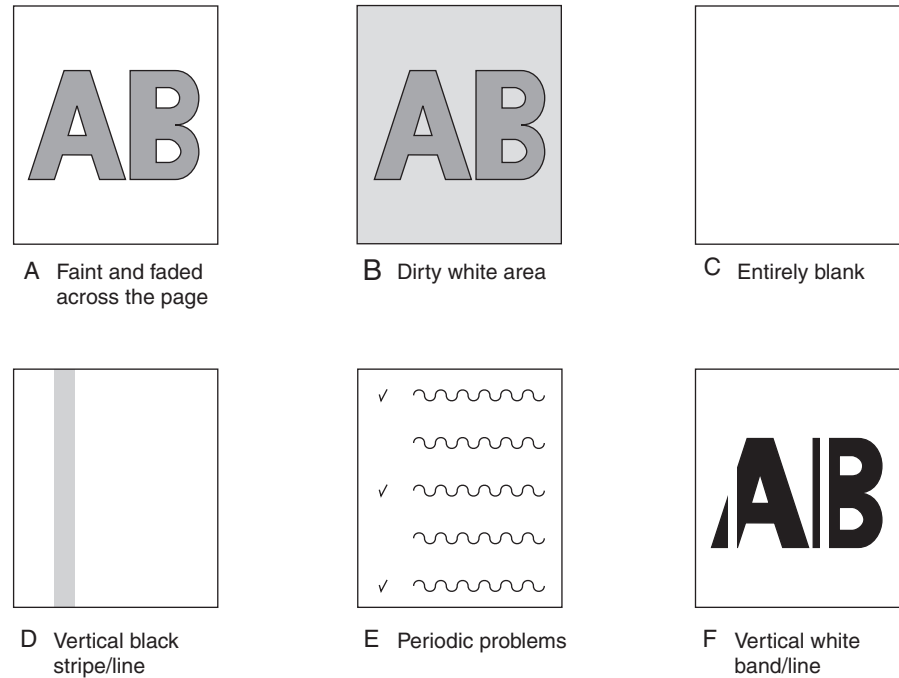

Fig.7-2
- (1) Color is faint and fades across pages (see Fig. 7-2 A).....7-81
- (2) The white area of printed pages is dirty (see Fig. 7-2 B).....7-82
- (3) Printed pages are blank (see Fig. 7-2 C).....7-83
- (4) Vertical lines are produced in printed pages.7-83
- (4-1) Fine lines (colored) (see Fig. 7-2 D)7-83
- (4-2) Fine lines (white) (see Fig. 7-2 F)7-83
- (5) Print quality problems appear periodically (see Fig. 7-2 E).7-84
- (6) Color misregistration is significant.7-84
- (7) Black filled-in printing.....7-85
7.5.6 (1) Color is faint and fades across pages (see Fig. 7-2 A).
7.5.6 (2) The white area of printed pages is dirty (see Fig. 7-2 B).
7.5.6 (3) Printed pages are blank (see Fig. 7-2 C).
(4-1) Fine lines (colored) (see Fig. 7-2 D)
(4-2) Fine lines (white) (see Fig. 7-2 F)
7.5.6 (5) Print quality problems appear periodically (see Fig. 7-2 E).